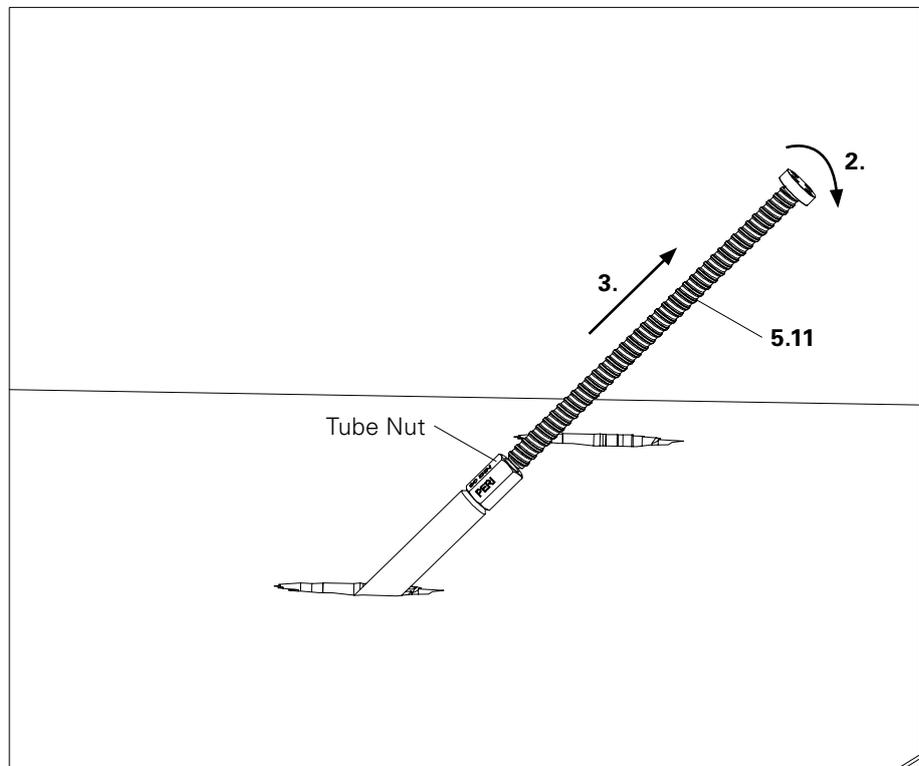

Fig. D3.03
3. Remove the tube nut, which has been released from the Tie Rod DW 15 (5.2), from the HT-Tube (5.9) with the aid of the screwed in Multi Tool VCB (5.11). (Fig. D3.03)